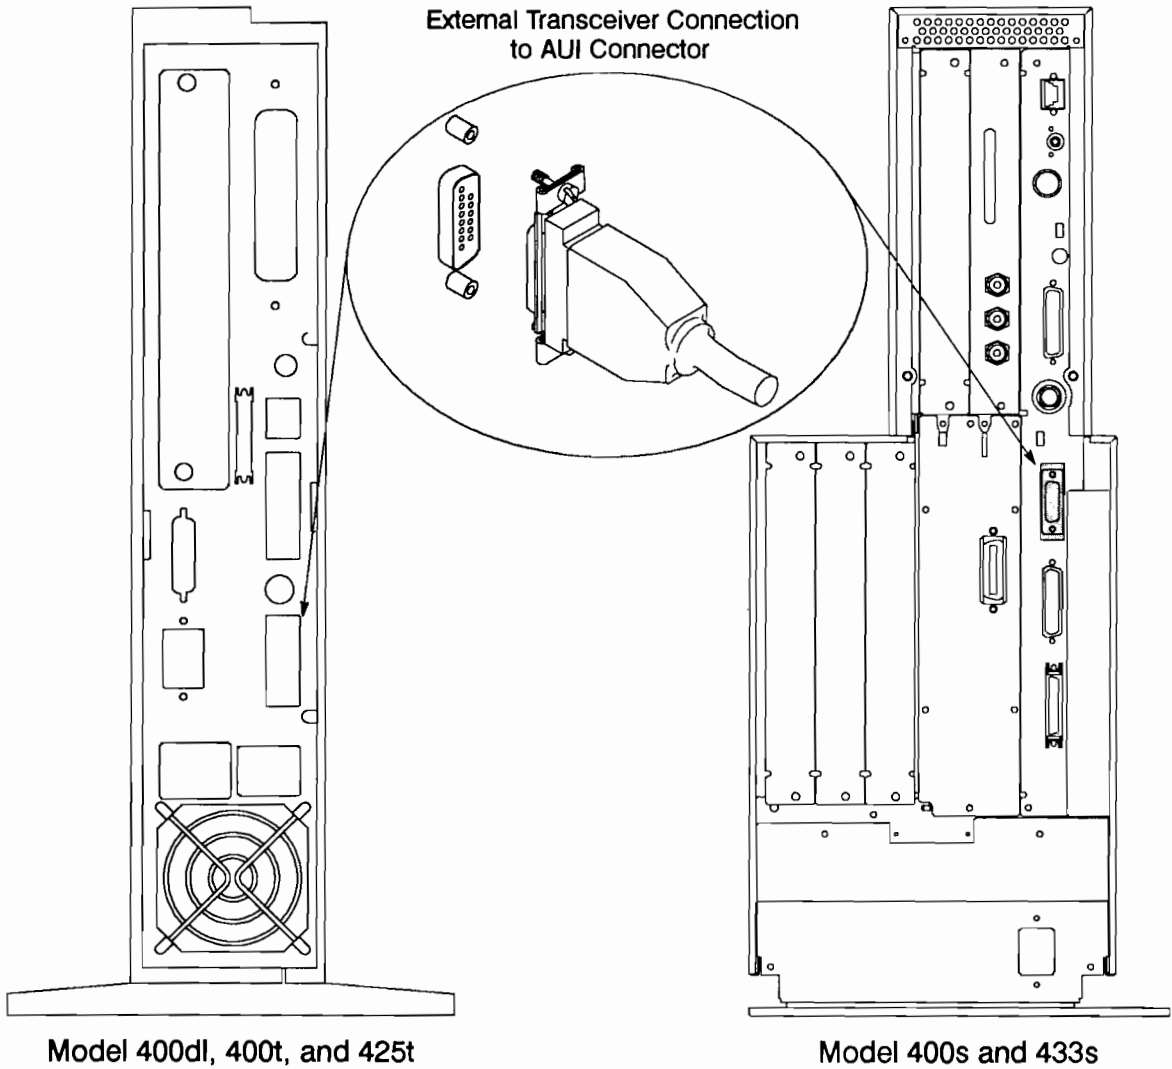

Figure 7-8. Connecting the 802.3 Cable to the AUI Connector
- 3.** Connect the network cable to the system unit's AUI connector as shown in Figure 7-8. Tighten the screws with a 3-mm (1/8-inch), flat-blade screwdriver.